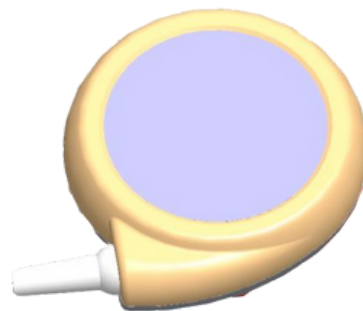

Fig. 13-2 FHR Sensor
- (1) Place a belt under the back of a pregnant woman and let her lie in supine position, then determine the fetus heart location with a stethoscope.
- (2) Apply some acoustic couplant on the middle 2/3 area of the sensor surface. When you move the sensor around the fetus site, the couplant is spread to cover the full sensor surface (see the shaded area in fig. 13-2).